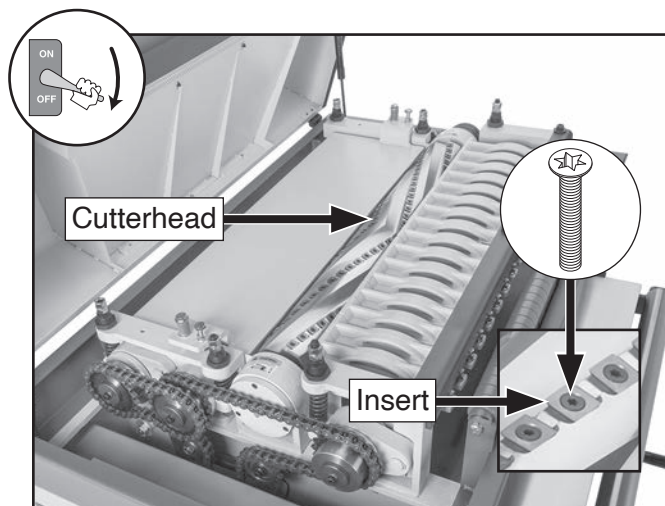

Figure 72. Cutterhead inserts and Torx screws.
5. Remove Torx screw and insert (see **Figure 72**), then clean all dust and debris from both parts and pocket they were removed from.